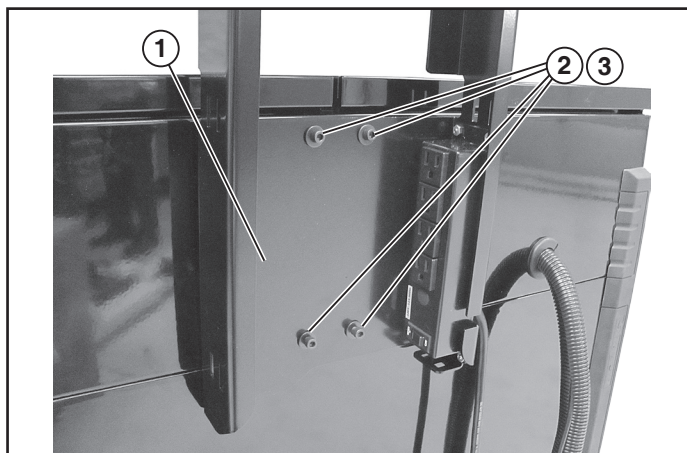

Figure 6
- Install the monitor bracket to rear of the cart using four socket head cap screws and flat washers (Figure 6).